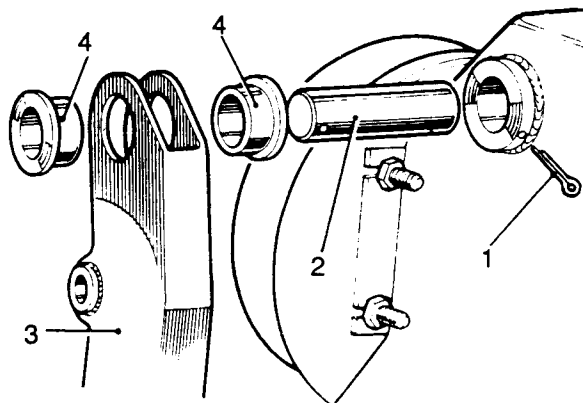

Fig K1.11
- (9) Refer to Fig K1.11. Using a suitable punch, drift out pin (1) from the pedal shaft.
- (10) Remove pedal shaft (2).
- (11) Withdraw the brake pedal complete with bushes (3).
- (12) If required, remove the bushes from the pedal (4).